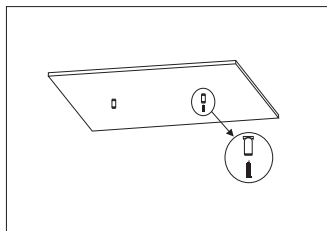

Figure 2
2. Lock the hanging part of the wire rope to the ceiling.(Figure 2)